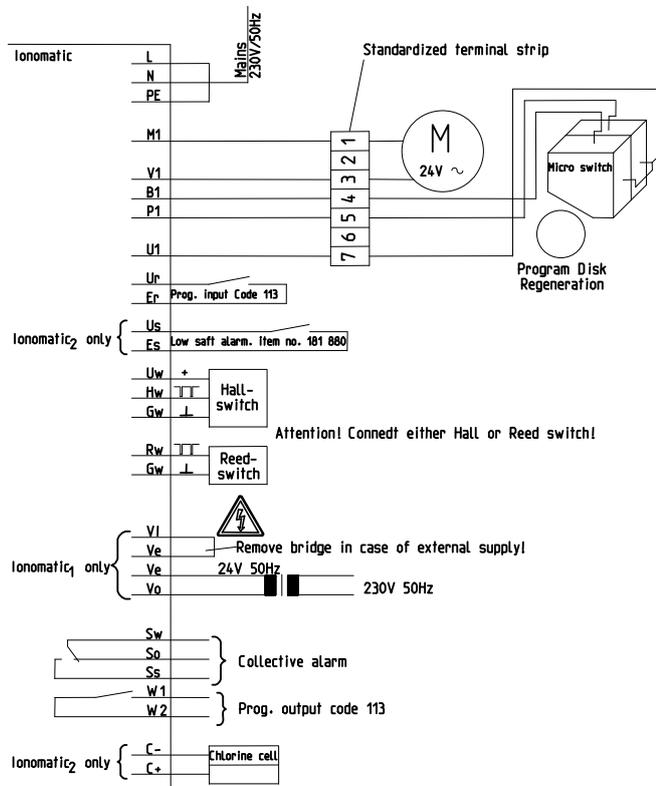

Fig. D-2: Terminal connection for GENO-mat® WF
Dimensions in fig. D-2 (a); excerpt from table D-1
2. Route 7-wire cable between control valve and control electronics and connect according to the terminal plan (fig. D-2).
4. Connect the water meter according to the terminal plan (fig. D-2).